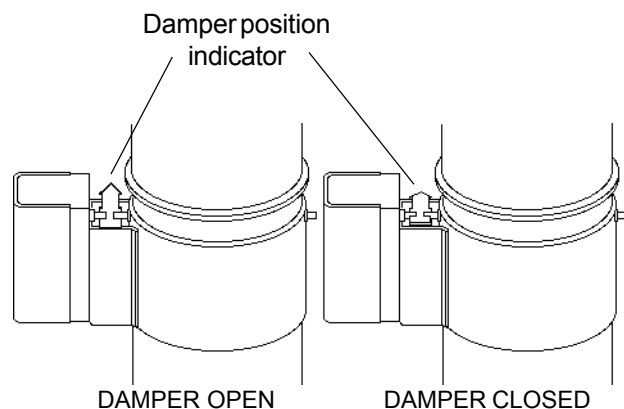

FIG.4-VENT DAMPER POSITION INDICATOR SHOWING OPEN & CLOSED POSITIONS.
1. When the furnace or heater is off, check that the vent damper position indicator points to the closed position, Fig. 4.
2. Turn the thermostat or controller up to call for heat and check that the vent damper indicator points to the open position, Fig. 4.